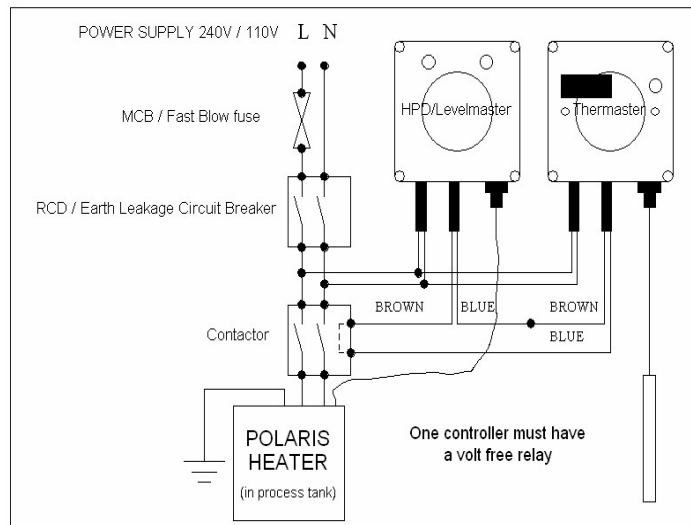

Fig. 3: Thermaster controller connected to level controller
b. For applications involving the use of another controller, such as level or timer connect as in fig. 3. One of the controllers must have a volt free relay.